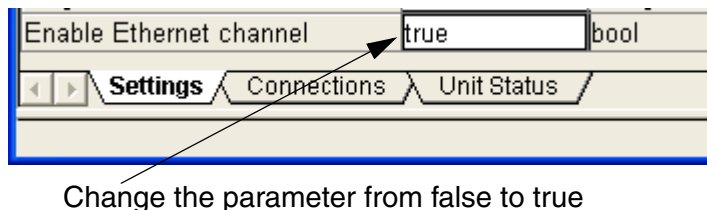

Figure 86. Hardware editor for Ethernet port No. 2 in Project Explorer. The parameter must be true for Network redundancy.
5. From Ethernet port number 2, select **Settings** tab and set the **Enable Ethernet channel** parameter to true (Figure 86).